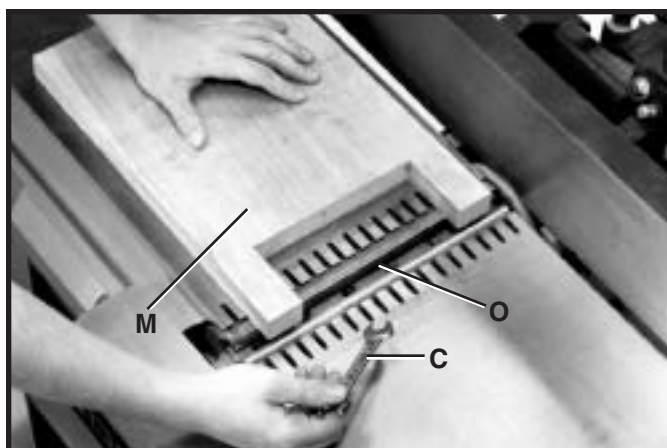

Fig. 48
9. Construct a “U” shaped block out of hardwood similar to the one shown at (M) Fig. 48, and place this block on the rear table over the cutterhead, as shown. Using wrench (C), loosen knife locking screws by turning them clockwise. The knife (O) will lift up and contact the ends of the gage block (M). The knives are adjusted correctly when the cutting edge of the knife contacts the gage block when the knife is at its highest point. When you are certain the knife is adjusted properly, tighten the knife locking screws by turning them counterclockwise.